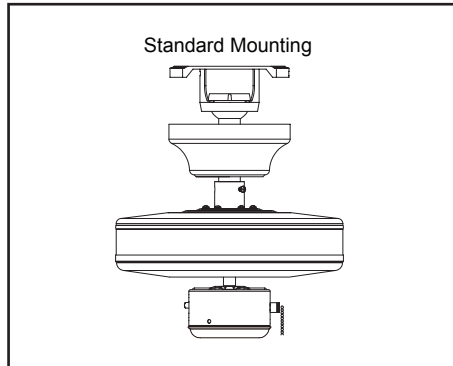

Figure 8
4. Carefully lift the fan assembly up to the ceiling mounting bracket. Make sure the tab on the mounting bracket is properly seated in the groove in the hanger ball. (Figure 8)